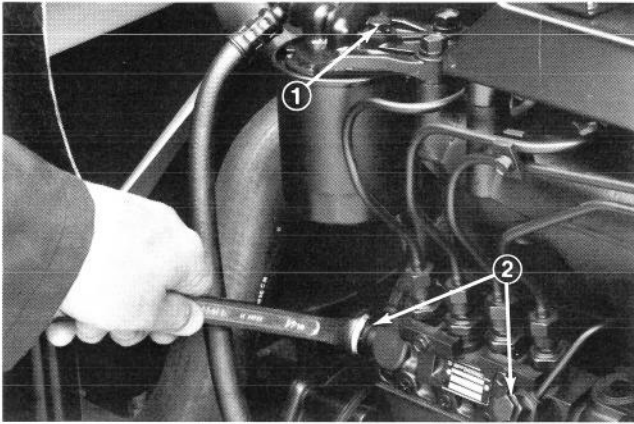
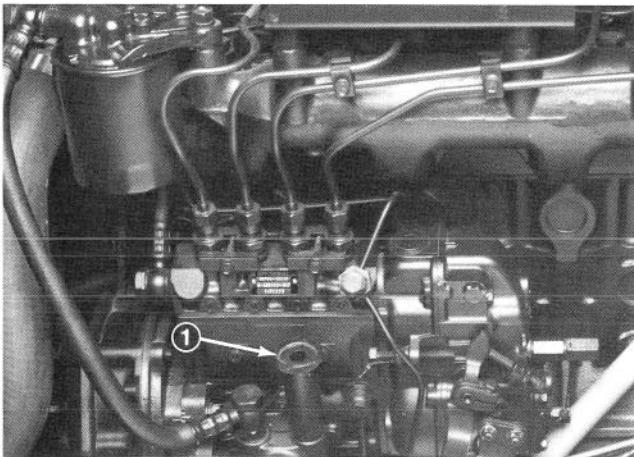

Figure 24
Figure 25
3. Loosen (3) air vent plugs on the engine fuel filter assembly about 1-1/2 turns (Fig. 24).
4. Rotate priming pump (Fig. 25) counter-clockwise until spring in pump assembly releases. Operate pump up and down until a solid stream of fuel flows out around filter plug and tighten plug.
5. Loosen air vent plug on injection pump about 1 – 1/2 turns (Fig. 24). Operate priming pump until solid stream of fuel flows from the vent hole (Fig. 25), then tighten air vent plug.